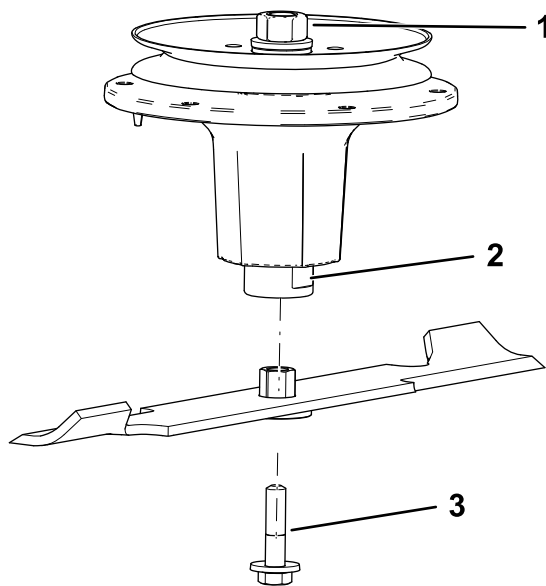

Figure 95
2. Install the bushing/blade assembly into the spindle shaft (Figure 95).